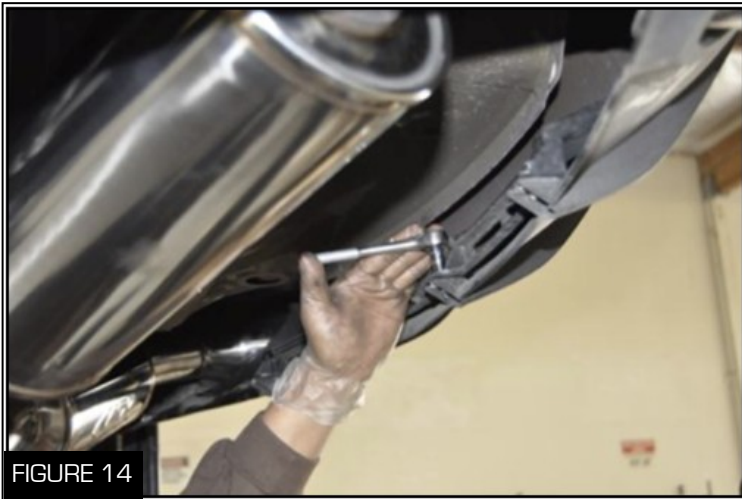

FIGURE 14
9. Reattach the rear valence and bolt it down using a 14 mm socket wrench (Figure 14)